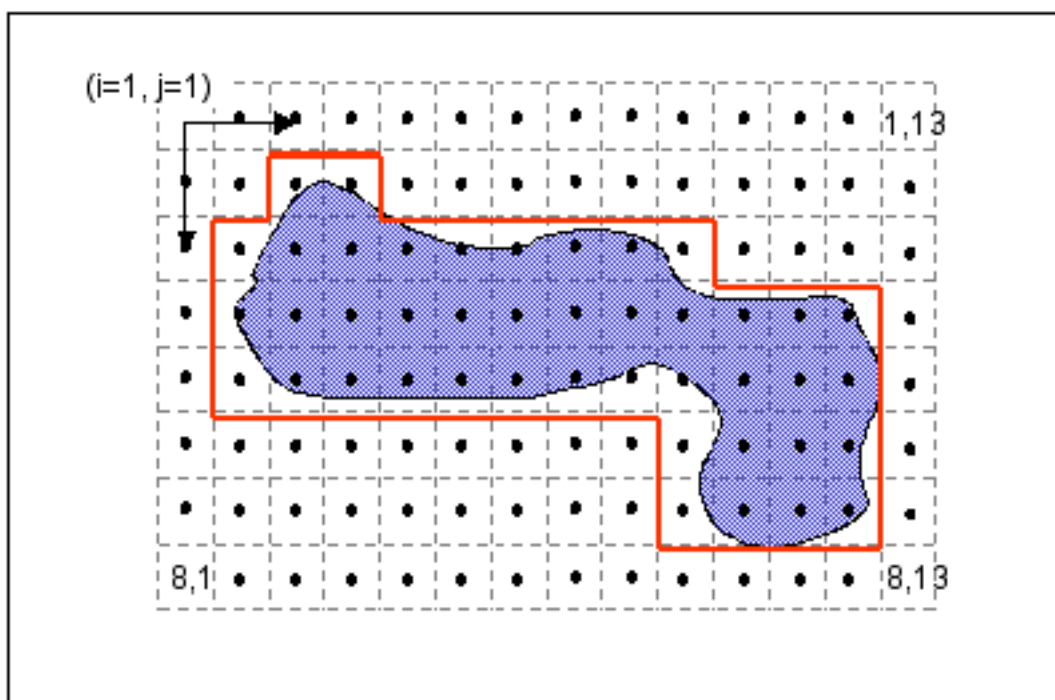

Figure 2. Plan view of Cartesian mesh
y) and allows non-uniform spacing in the vertical (z) direction. Figure 2 shows a plan view (x-y plane) of a lake with a discrete (uniform) Cartesian mesh overlay. The computational domain is divided into "cells", whose centers are represented in Figure 2 by solid dots. Dashed lines represent the faces between the cells. Each cell center has an (i,j,k) coordinate that designates its location in discrete computational space. The i,j,k values are the integer indices of a three-dimensional array. The right-hand rule is used, with (i,j,k) being non-zero, positive integer values; $k=1$ is associated with the lower-most cell layer in the domain. The (i,j) pairs of a horizontal plane represent a matrix, so that by conventional mathematical notation the (1,1) position is always in the upper left corner. The 'i' index is the row index and increases down the page. The 'j' index is the column index and increases across the page. The (i,j) indices for corner cells are shown in Figure 2. For convenience and consistency, the origin (0,0) of the x,y (physical space) coordinates is taken to be at the (1,1) location in the computational space i,j indices.